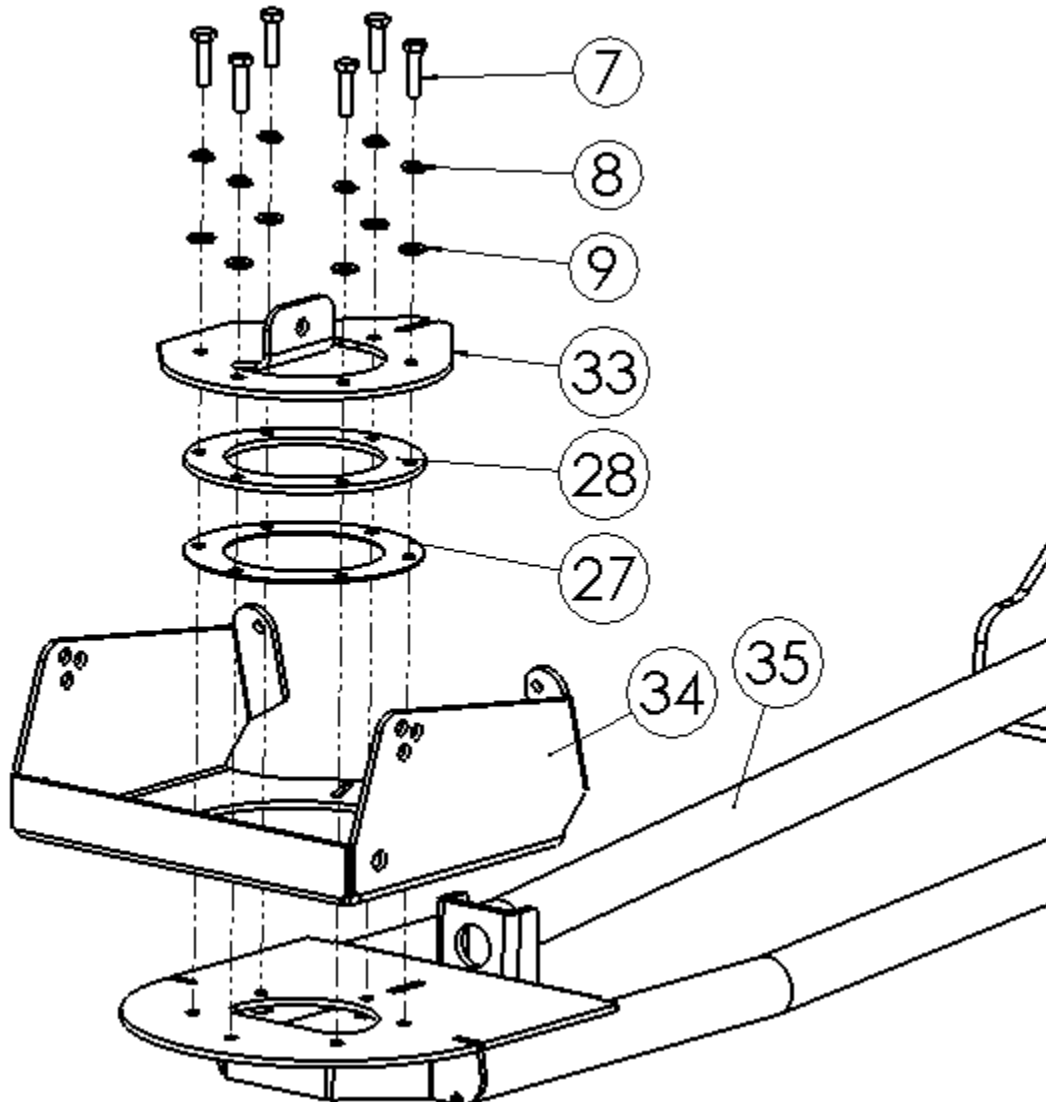

Figure 5
- 5) Attach the Slotted Top Plate (#34) and Slotted Locking Bracket (#33) to the Pushtube Weldment (#35) using the Plastic Spacer (#27), Metal Spacer (#28), and M8 Hardware (#7, #8, #9) as shown in **Figure 5**.